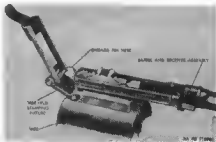

Figure 87. Placement of barrel and receiver assembly in vice-held stamping fixture.
- (2) *Obscured serial numbers (DEPOT MAINTENANCE ONLY).* Maintenance organizations engaged in restamping serial numbers will fabricate fixtures locally to reinforce and clamp the receiver during the stamping operation. Two fixtures have been developed for this purpose; the vise-held stamping fixture (Figs. 87 and 88) and the bench-mounted stamping fixture (Figs. 89 and 90). The choice of fixture which best suits the requirements of the maintenance organization is left to the discretion of that organization.
1. Secure fixture firmly in vise as shown in figures 87 and 88.
2. Clamp the barrel and receiver assembly in the fixture (Figs. 87 and 88).